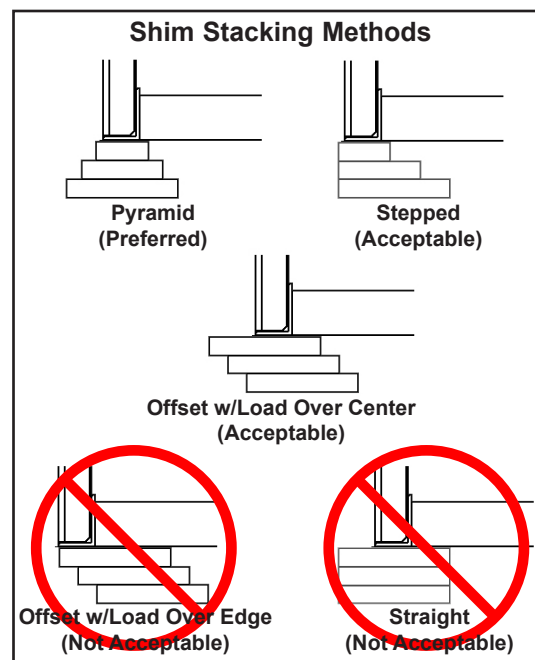

Figure 11
2. Using the results obtained in step 1, create the individual shim stacks on the pit floor at location (**B**). Build each shim stack (**M**) with the top shim having a minimum size of 4-1/2" x 4-1/2" (114.3 mm x 114.3 mm) and each successive lower shim being larger so the shims can be welded together using a fillet weld. If using offset method, make sure load is over center of shim stack, NOT over the edge. DO NOT use straight method. See Figure 11.